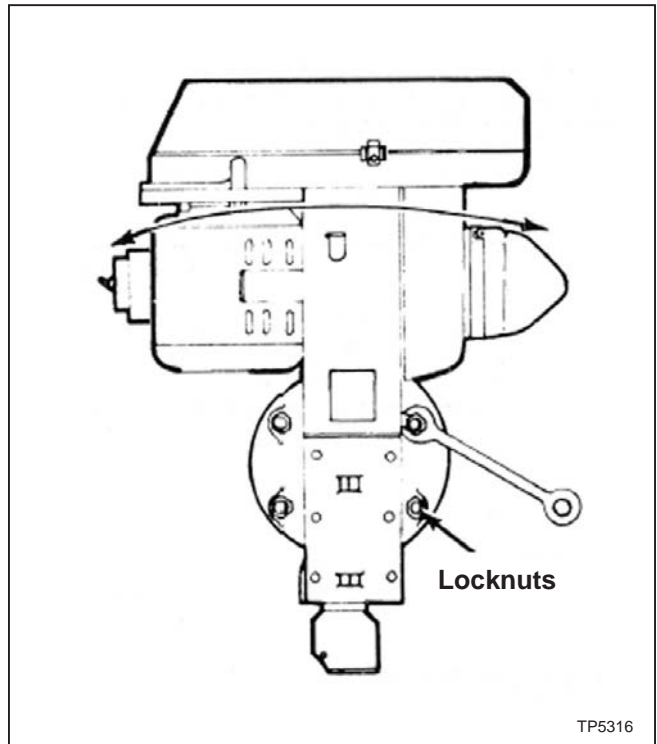

Figure 2.32 - Shaping Head
1. Loosen the four locknuts (see Figure 2.32). Support unit to prevent free fall.